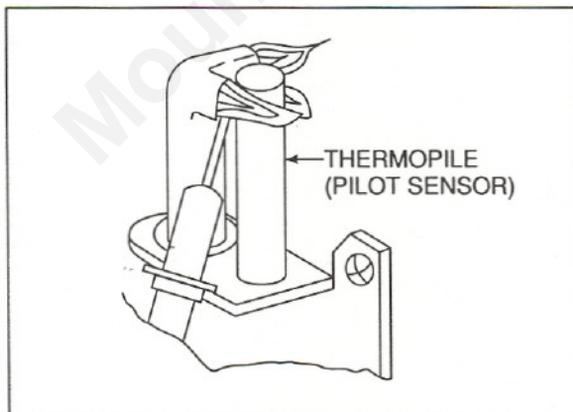

Figure 9B
2. Adjust the pilot key to provide properly sized flame. See Figure 9B.